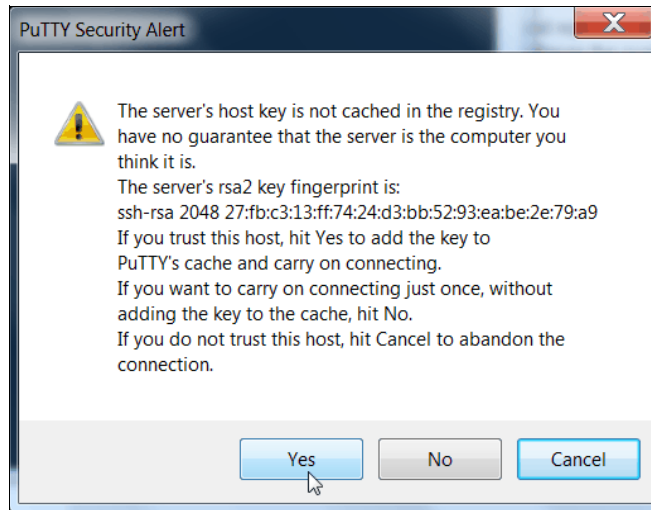

Figure A-20 Confirm the security alert
9. If a PuTTY Security Alert window opens, confirm it by clicking **Yes** (see Figure A-20).